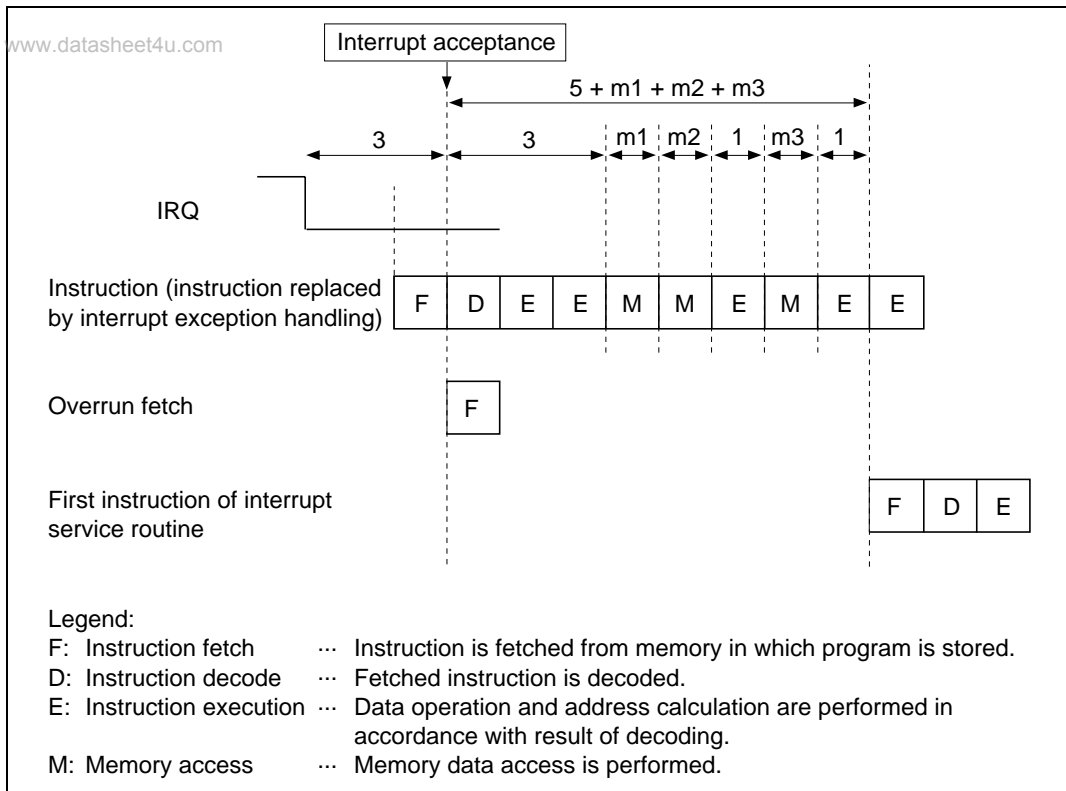

Figure 6.5 Example of Pipeline Operations when IRQ Interrupt is Accepted
3. The priority level of the interrupt selected by the interrupt controller is compared with the interrupt mask bits (I3 to I0) in the CPU’s status register (SR). An interrupt with a priority level equal to or lower than that set in bits I3 to I0 will be ignored. If the interrupt priority level is higher than the level in bits I3 to I0, the interrupt controller accepts the interrupt and sends an interrupt request signal to the CPU.
5. The interrupt request sent from the interrupt controller is detected when the instruction about to be executed by the CPU is decoded, and execution of that instruction is replaced by interrupt exception handling (see figure 6.5).
6. The status register (SR) and program counter (PC) are saved to the stack.
8. If the accepted interrupt is level-detected, or is from an on-chip peripheral module, a high-level signal is output from the $\overline{\text{IRQOUT}}$ pin. If the accepted interrupt is edge-detected, a high-level signal is output from the $\overline{\text{IRQOUT}}$ pin at the point at which the instruction about to be executed by the CPU is replaced by interrupt exception handling in (5). However, if the interrupt controller accepts another interrupt of a higher level than the interrupt in the process of being accepted, the $\overline{\text{IRQOUT}}$ pin remains low.
The time from generation of an interrupt request until interrupt exception handling is performed and fetching of the first instruction of the exception service routine is started (the interrupt response time) is shown in table 6.8. Figure 6.5 shows an example of pipeline operation when an IRQ interrupt is accepted.